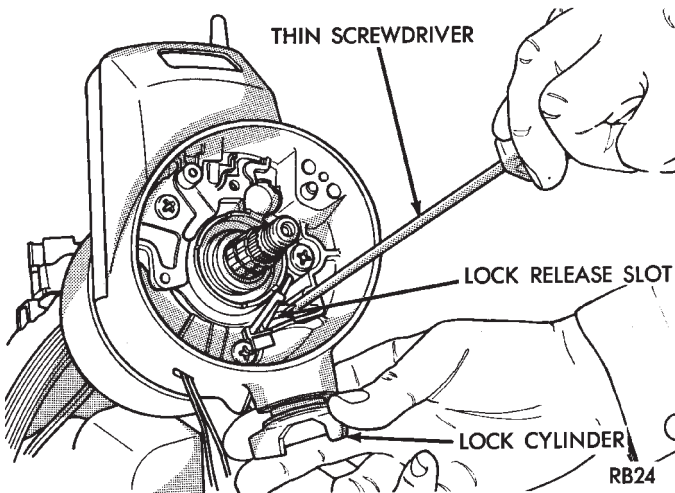

Fig. 7 Key/lock Cylinder Removal
(14) Turn ignition key/lock cylinder to the ON position. Insert a thin screwdriver into the slot adjacent to the switch attaching screw boss (right-hand slot). Depress the spring latch located at the bottom of the slot to release the key/lock cylinder. Remove the key/lock cylinder. (Fig. 7).